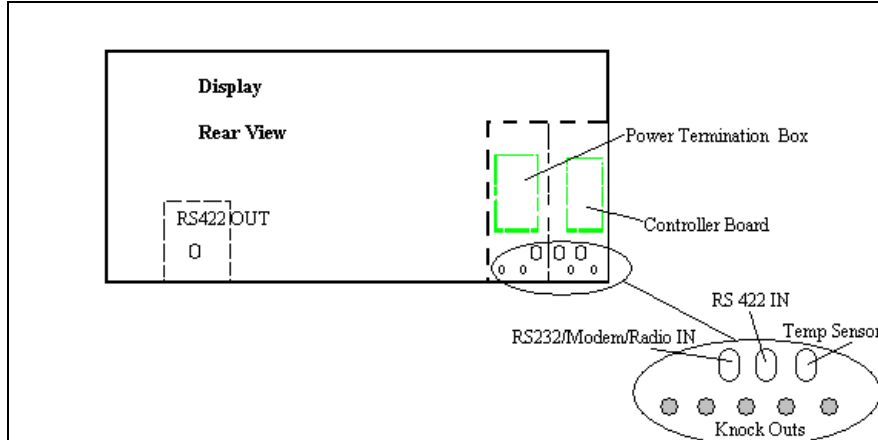

Figure 20: Signal Termination Display Rear View
6. Connect the green grounding wire to the grounding bus L1. Refer to **Figure 20** above.